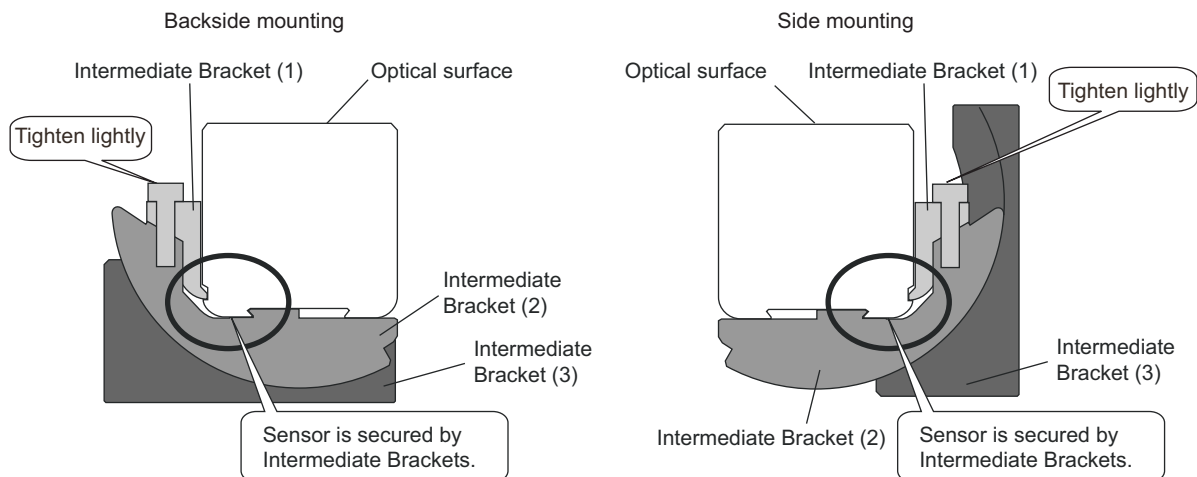

Figure 8
2. Mount the Intermediate Bracket to the case, and then lightly tighten the hexagon socket head cap screws (M3 x 12) of Intermediate Bracket (1). (Figure 8)